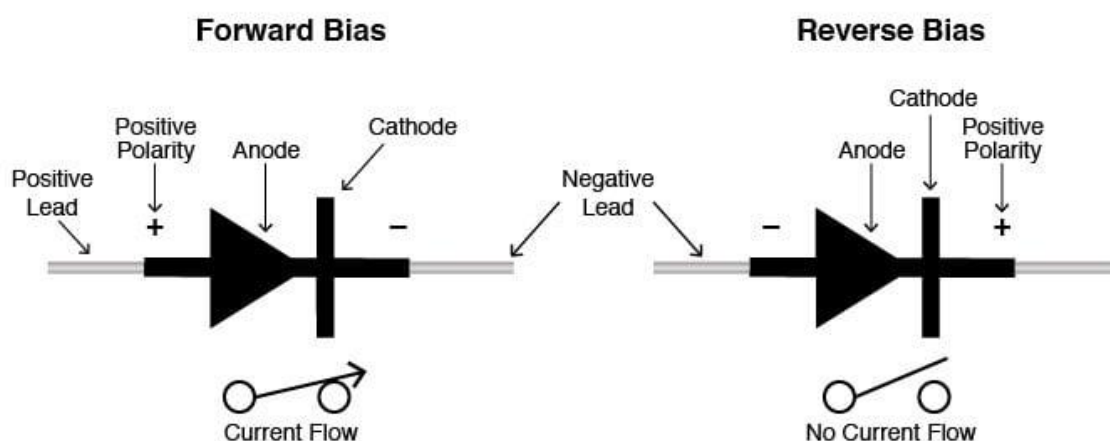

Figure 26: The role of the Diode is to allow current to flow easily through in one direction but restricts the flow of current in the opposite direction.
making it primarily used for rectifying alternating current (AC) into direct current (DC) application figure 26.